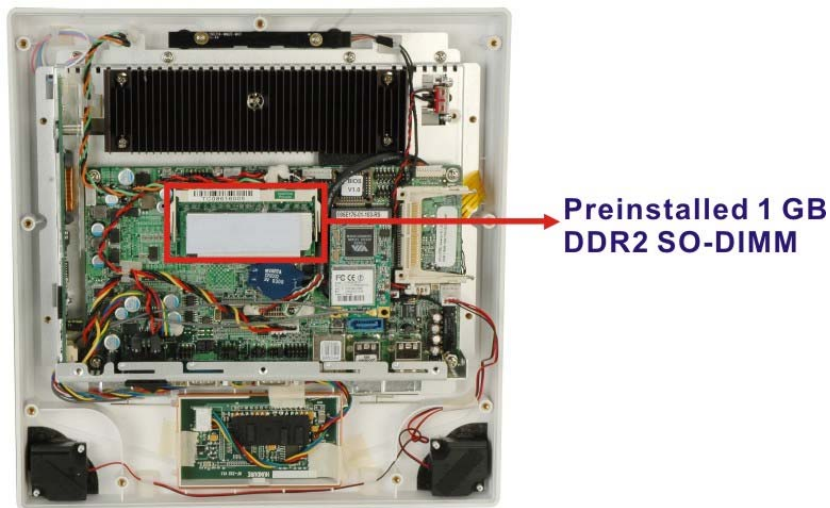

Figure 6-3: SO-DIMM Socket Location
Step 4: Locate the SO-DIMM module. See **Figure 6-3**.